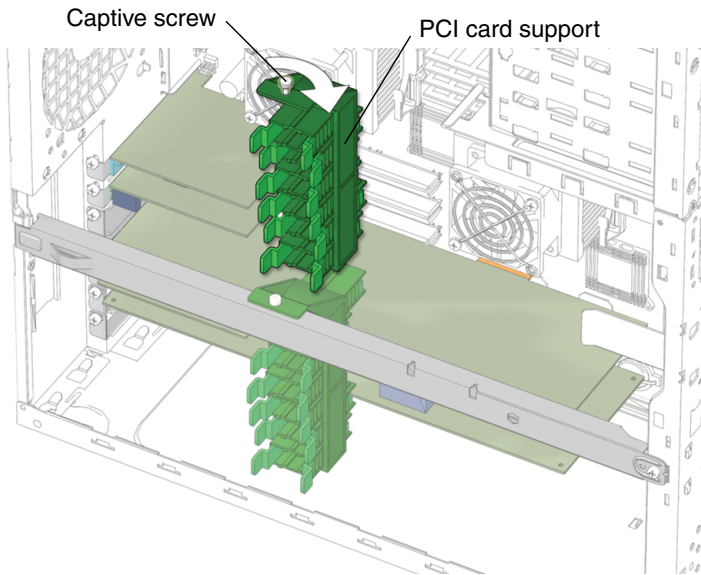

FIGURE 13-48 Fastening the PCI Card Support
5. Fasten the PCI card support (FIGURE 13-48).